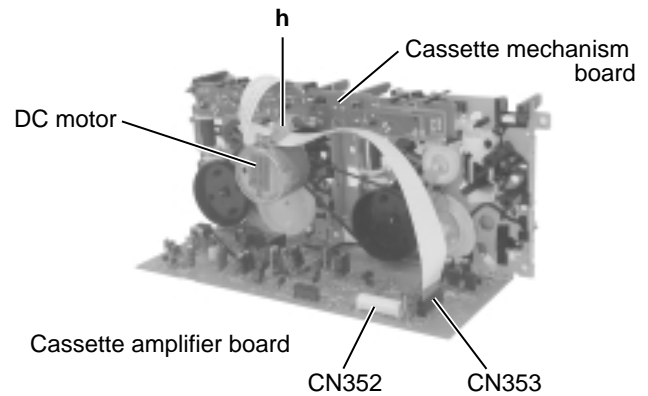

Fig.25
■Removing the cassette amplifier board (See Fig.25 and 26)